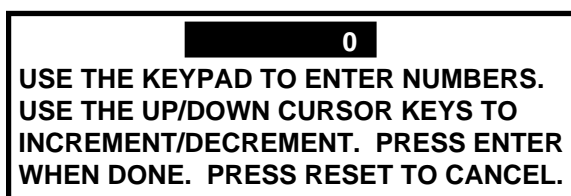

Figure 5-3. Superimposed instructions on Tool display
1. Highlight the value displayed in the "preset" column that you want to set, and press Enter. You will see a display superimposed over the Counter display (see Figure 5-3). This applies to either strokes, good parts, or batch.